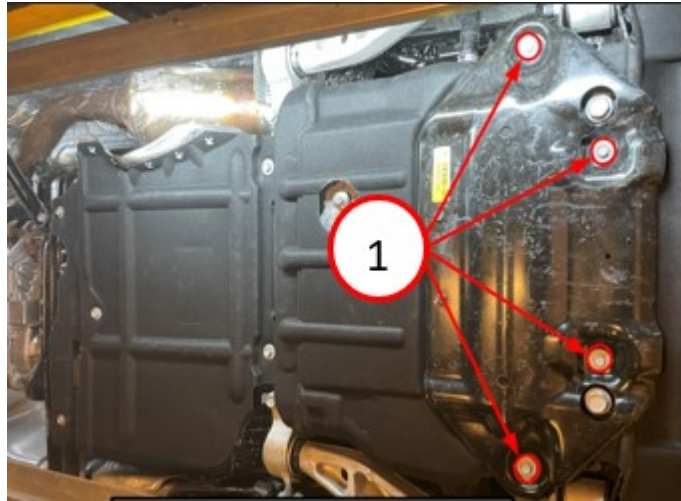

Fig. 3
4. Remove the four remaining 13 mm bolts securing the Skid Plate. Set the Skid Plate aside. Refer to the detailed service procedures available in DealerCONNECT> Service Library under: Service Info 13 - Frame and Bumpers / Under Body Protection / plate, Skid, Front Suspension / Removal (Fig. 3)